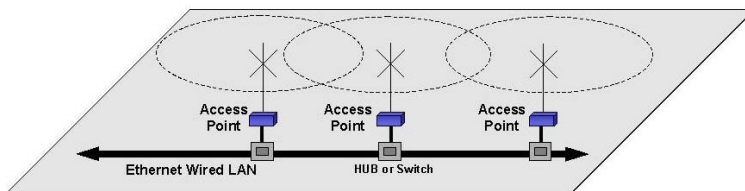

Figure 1: Conventional Access Point Diagram
With a conventional IEEE 802.11g or 802.11a Access Point (AP) network, all of the APs have to be interfaced to a common network either by hardwire, see Figure 1, or a separate, dedicated RF backbone. The Model 195E can create this RF backbone, bridge Ethernet networks connected to the wired Ethernet port and provide the wireless canopy for 802.11 clients simultaneously.